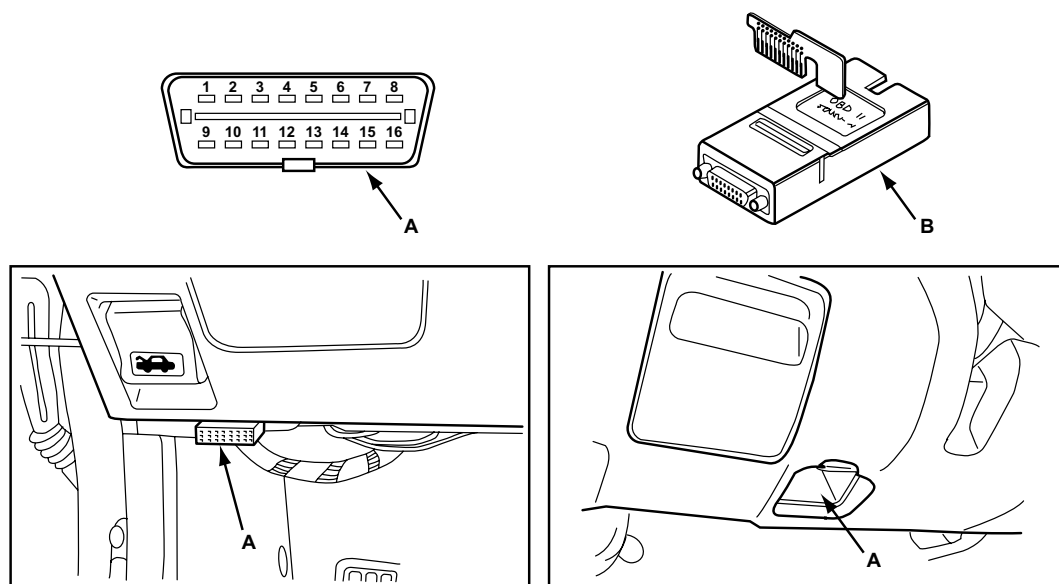

Figure 15-60 16-Pin OBD-II connector and common locations
- 2005 Legacy/Outback Sedan and Wagon (Figure 15-60 on page 228)
1. Use the OBD-II adapter with the specified Personality Key™ device (Figure 15-60).